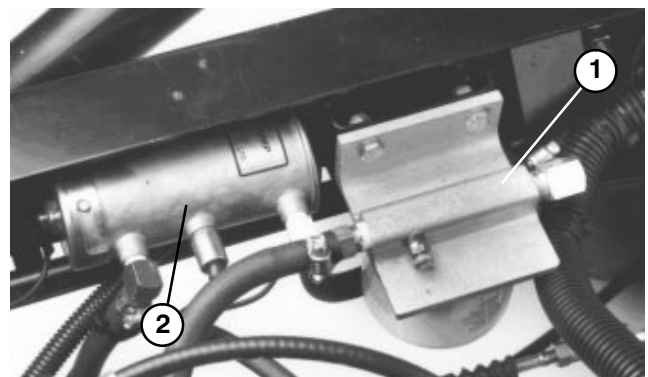

Figure 42
FUEL SYSTEM (Fig. 42–44)
2. Fuel filter/water separator is mounted on inner side of right frame rail (Fig. 42).
2. Fuel pump is mounted on inner side of right frame rail (Fig. 42).